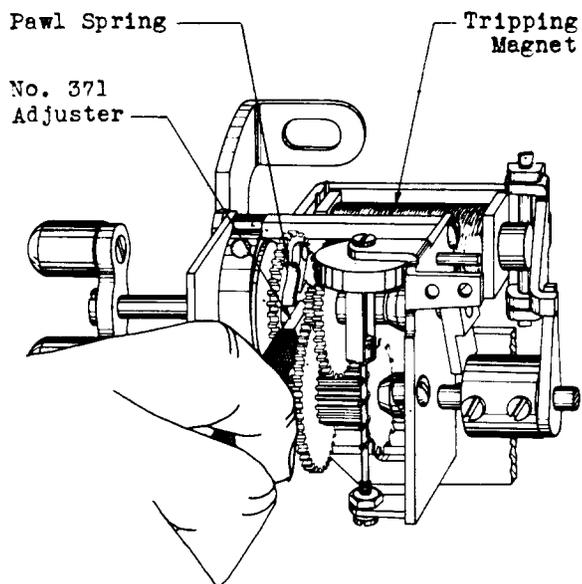

Fig. 15 - Method of Adjusting Pawl Spring with the No. 371 Adjuster
(2) To adjust the tension of the pawl spring use the No. 371 adjuster applied as shown in Fig. 15.